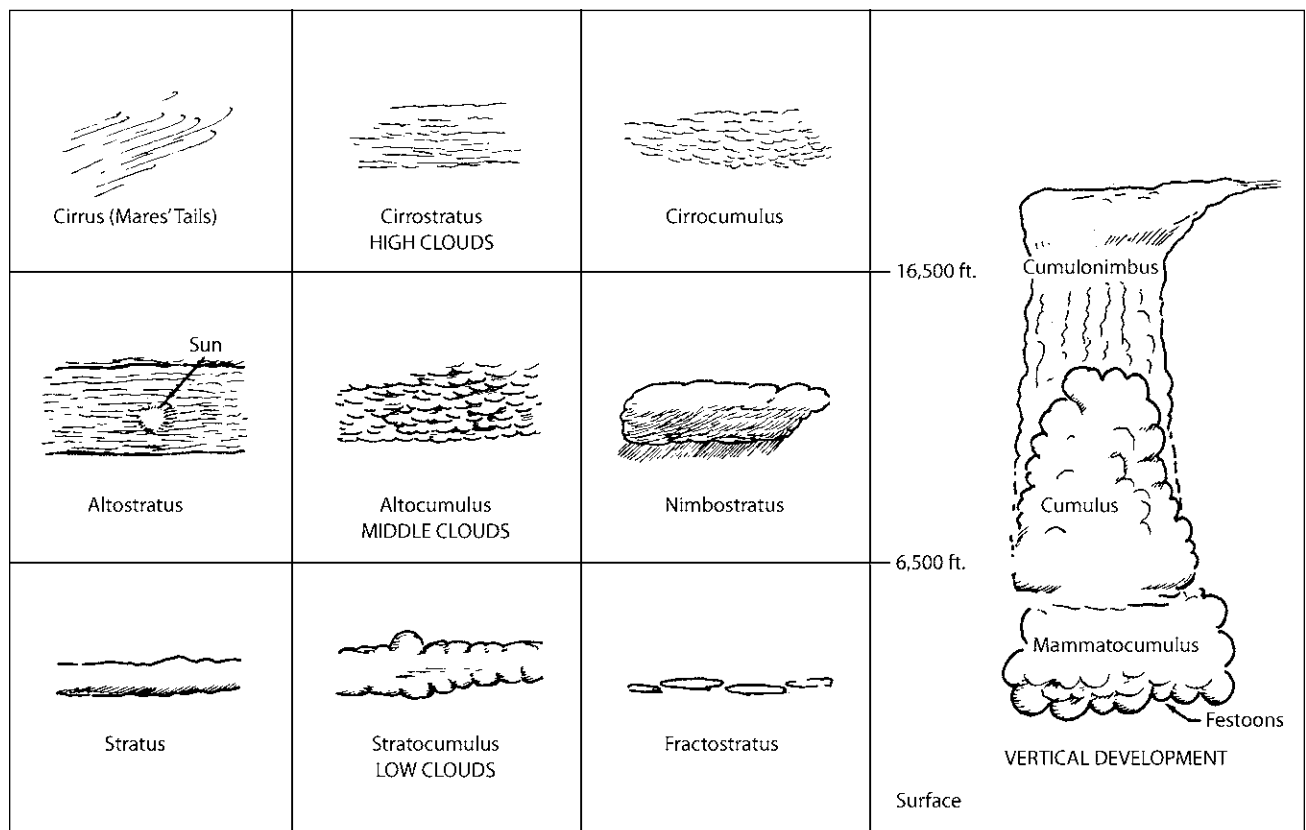

Figure 22-10. Some typical cloud formations.
Figure 22-10 shows some representative types of clouds.
3. *Dissipating stage*—Don’t get the idea that the dissipating stage means that all is fine for penetration. This stage is indicated by the anvil head (Figure 22-10) and is now mostly downdrafts. However, since there is no defined line between the stages, the anvil may be seen while there are still updrafts, and hail may fall out of the anvil into the clear air below. A rule of thumb would be to stay at least 10 miles away from a thunderstorm.